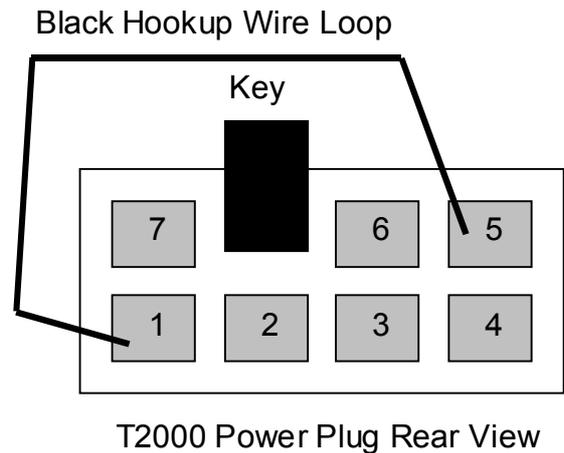

Figure 1.
13. For a repeater transmitter only, place a black hook-up wire between pins 1 and 5 on the TX power cable, as shown in Figure 1. The connector pin used to make up the loop is supplied in the kit of accessories parts with the radio. T201X radios will already have a wire loop between pin 5 and pin 2 for the internal speaker. The new black wire loop will have to also connected to pin 5 using the same connector pin. This wire forces that radios A2000-UIS board into a “Transmit Only” mode and stops its receive section from operating.